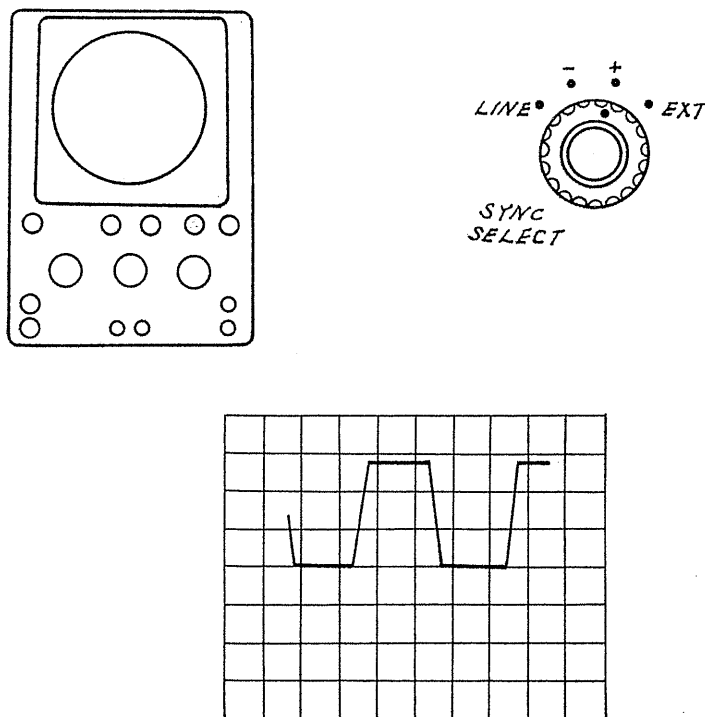

Fig. 5
9. When the SYNC SELECT switch is changed over to INT -, the starting point of wave form will be changed as shown in Fig.5.